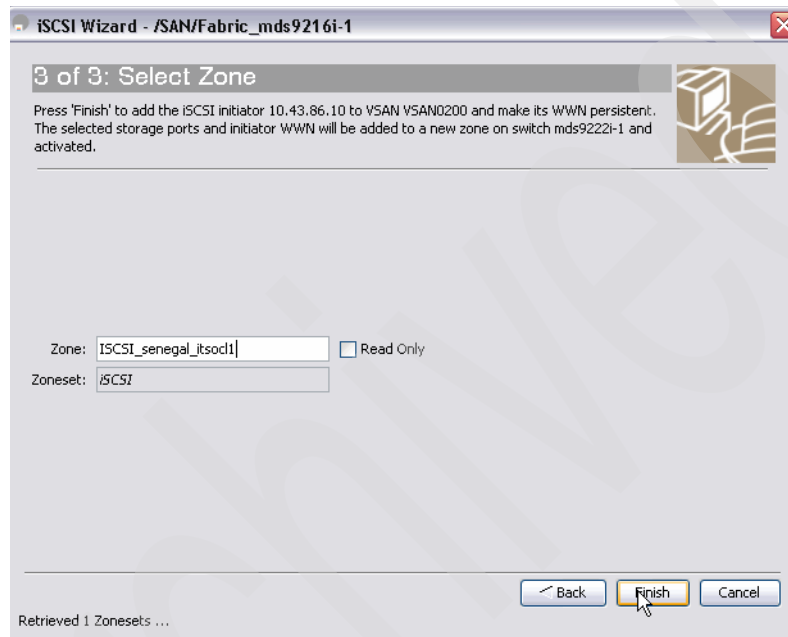

Figure 7-47 Fabric Manager iSCSI Wizard panel 3 of 3
3. Once the targets are selected, we are able to name our zone. Cisco's MDS prompts us to name it starting with the prefix iSCSI (Figure 7-47). We click **Finish** → **Commit** to activate our changes.